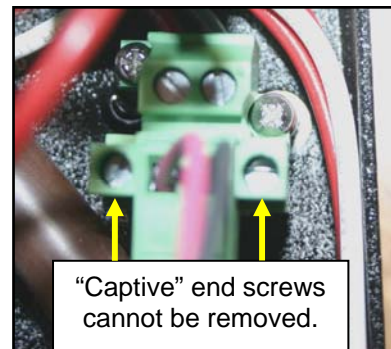

Figure 2. THE INLET SOLENOID MODULE POWER CONNECTOR.
5. Loosen the captive screw at each end of the green power connector. Refer to Figure 2. As captive screws, they cannot be removed. Once the end screws have been loosened, disconnect the green power connector.